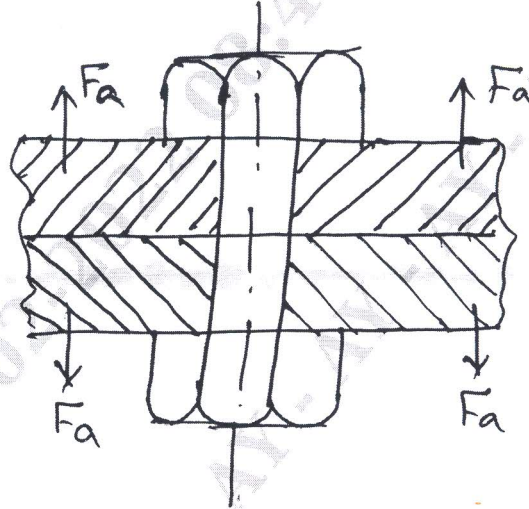

Fig Q6(a)
- 6 a. Fig Q6(a) shown a bolted assembly of two components. The initial preload on the bolt is 4kN and the external force acting on the bolt is 7.5kN. The ratio of the stiffness of the member to the stiffness of the bolt is 2.5. The bolt with coarse thread is made of plain Carbon steel and its yield strength is 375 N/mm^2 . Taking factor of safety = 3, Design the size of bolt.